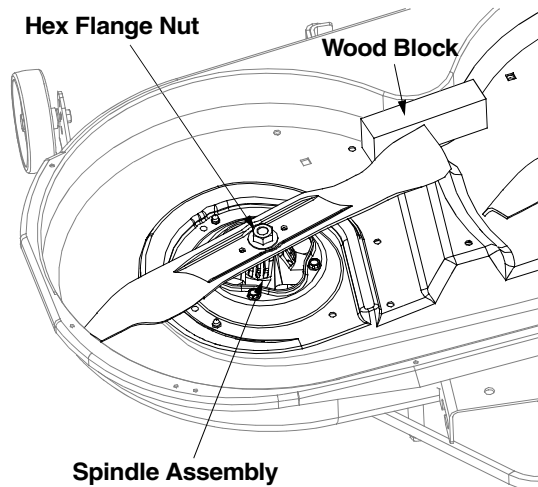

Figure 10
- Place a block of wood between the center deck housing baffle and the cutting blade to act as a stabilizer. See Figure 10.
- Use a 15/16" wrench to remove the hex flange nut that secures the blade to the spindle assembly. See Figure 10.